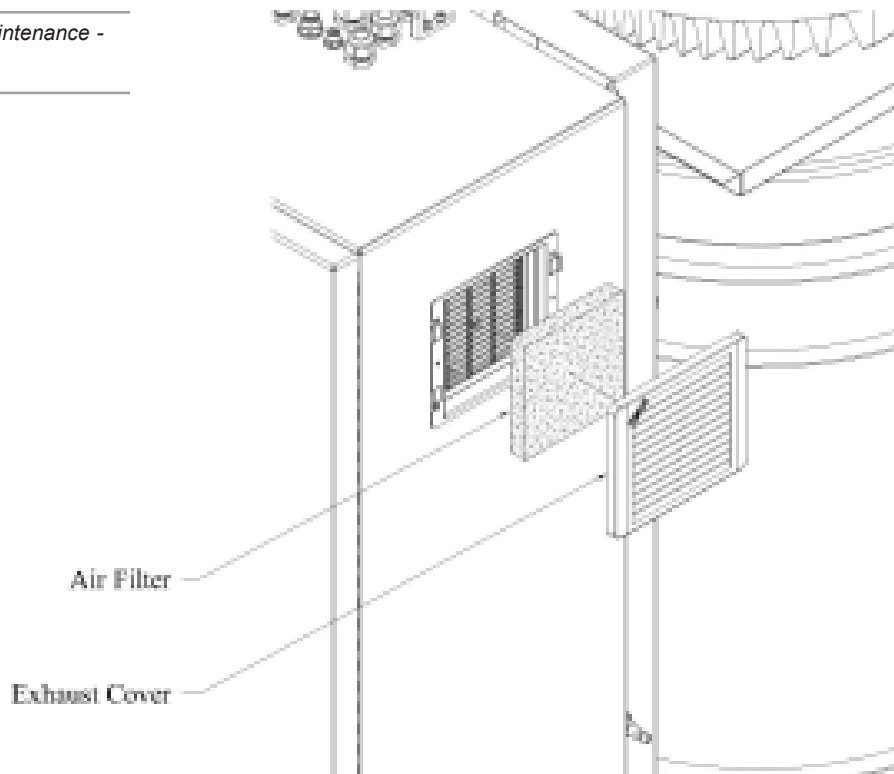

Figure 7-1. Electrical Cabinet Fan Filter
1. Remove the exhaust cover on the right side of the electrical cabinet (back of the unit; see Figure 7-1).